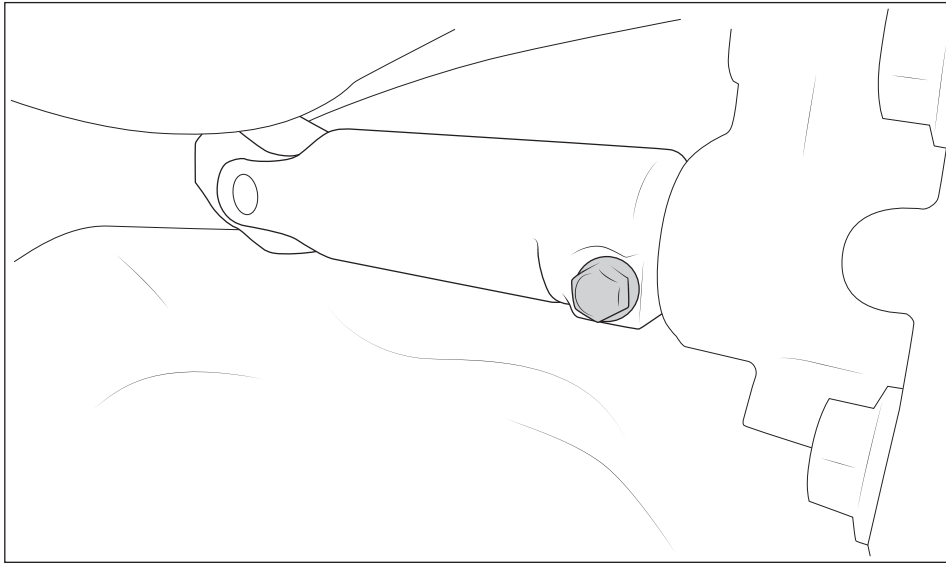

Figure 1
2. Unscrew the bolt holding the steering shaft to the steering box (fig. 1). NOTE: Bolt must come all the way out for the shaft to be removed.